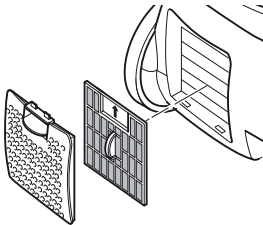

Fig. 27
3. Remove the hygienic exhaust filter (Fig. 27).
6. Put the new / cleaned and completely dry hygienic exhaust filter back into its receptacle with the arrow pointing up (Fig. 27).